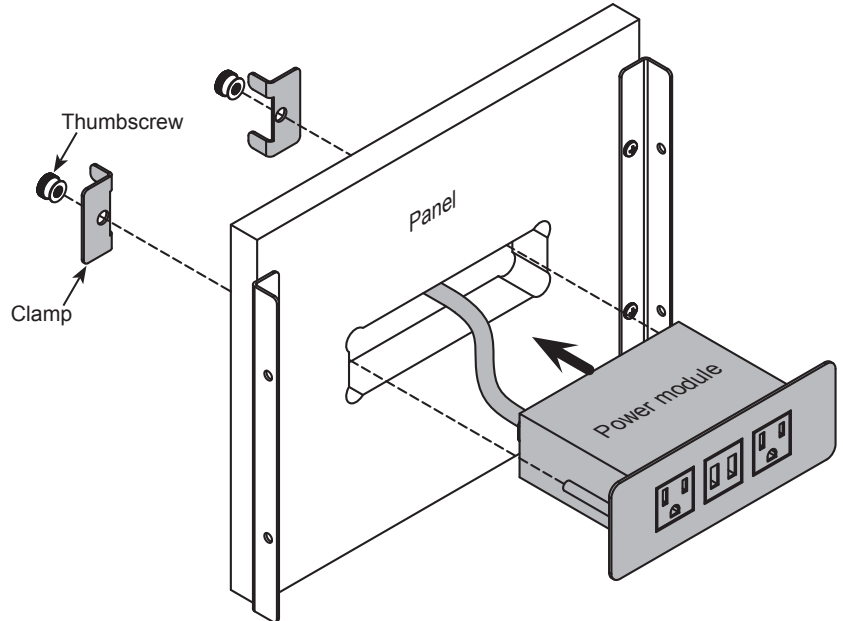

Figure 3
1. Remove the thumbscrews and clamps from the power module. **Figure 3.**